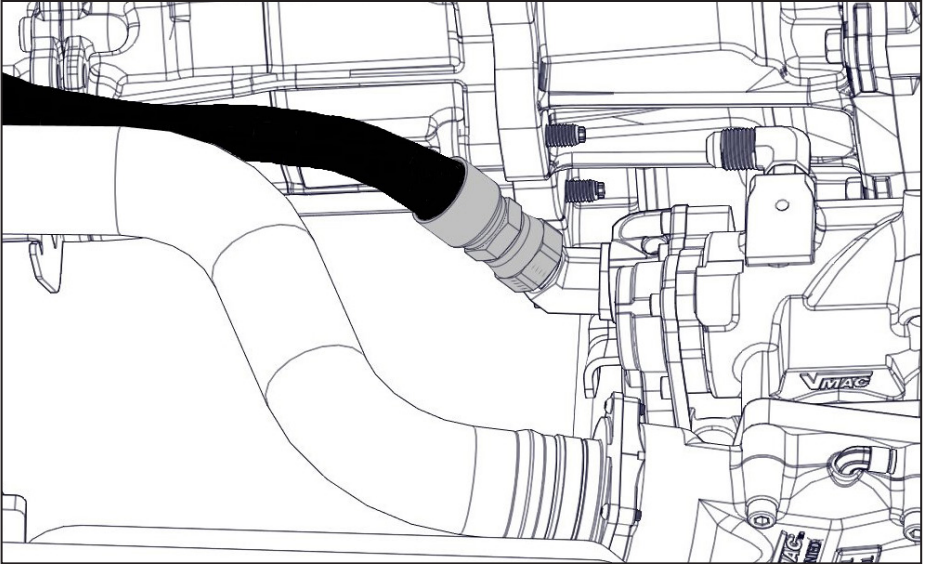

Figure 60 — Connect discharge hose
- ☐ Connect the discharge hose to the 45° fitting on the compressor (Figure 60).